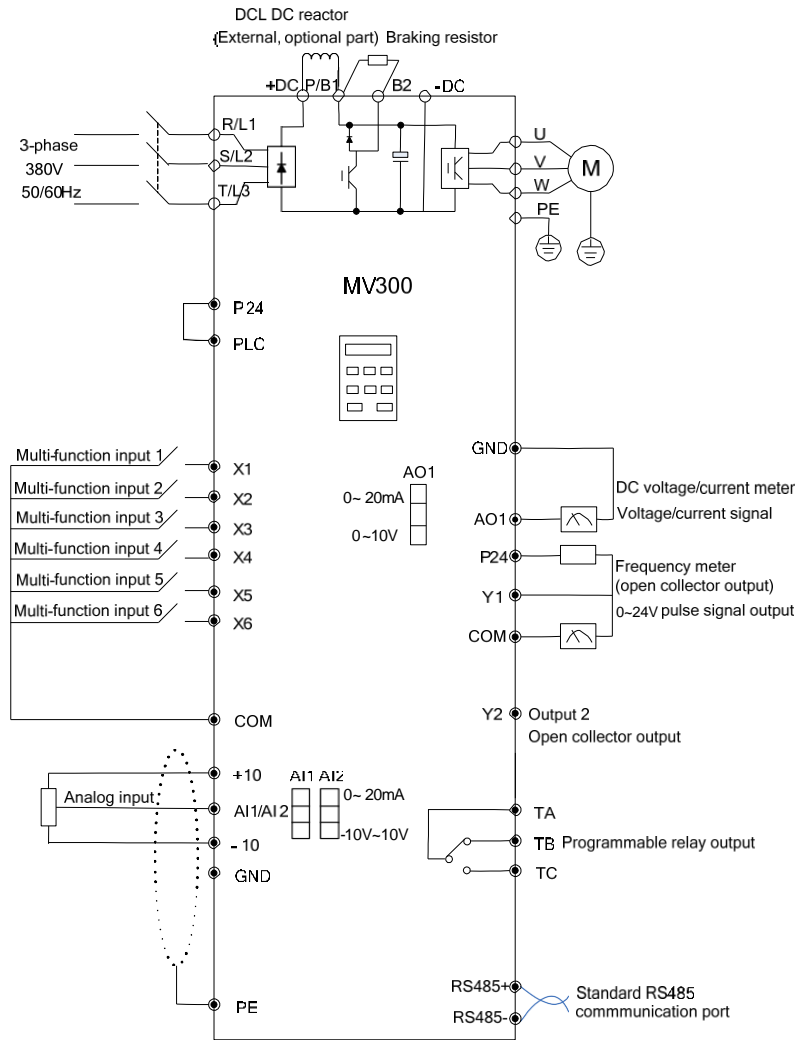
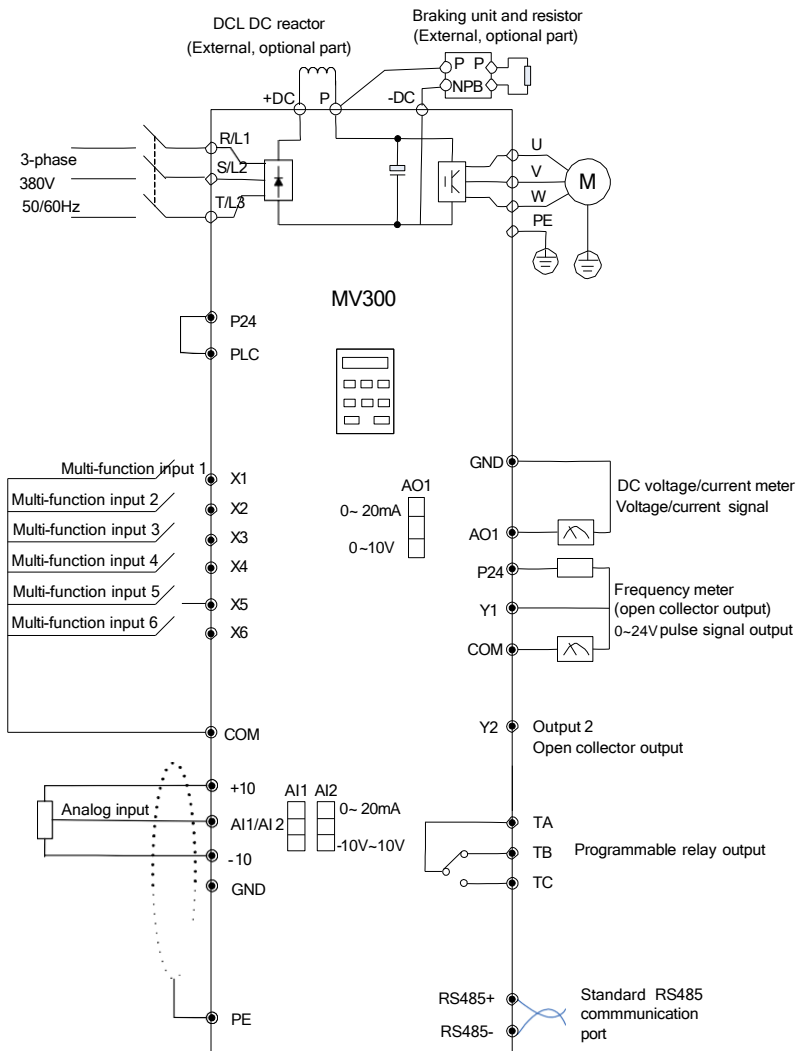

Fig. 3-3 Basic wiring diagram 1
Fig. 3-4 Basic wiring diagram 2
6. Fig. 3-3 is the wiring diagram for basic operation of model 75kWG/90kWP and below, and Fig. 3-4 is the wiring diagram for basic operation of model 90kWG/110kWP and above, special attention should be paid to these models: 355 kWP, 355 kWG, 400 kWP, 400 kWG, the main circuit terminal of external braking unit is P, N.